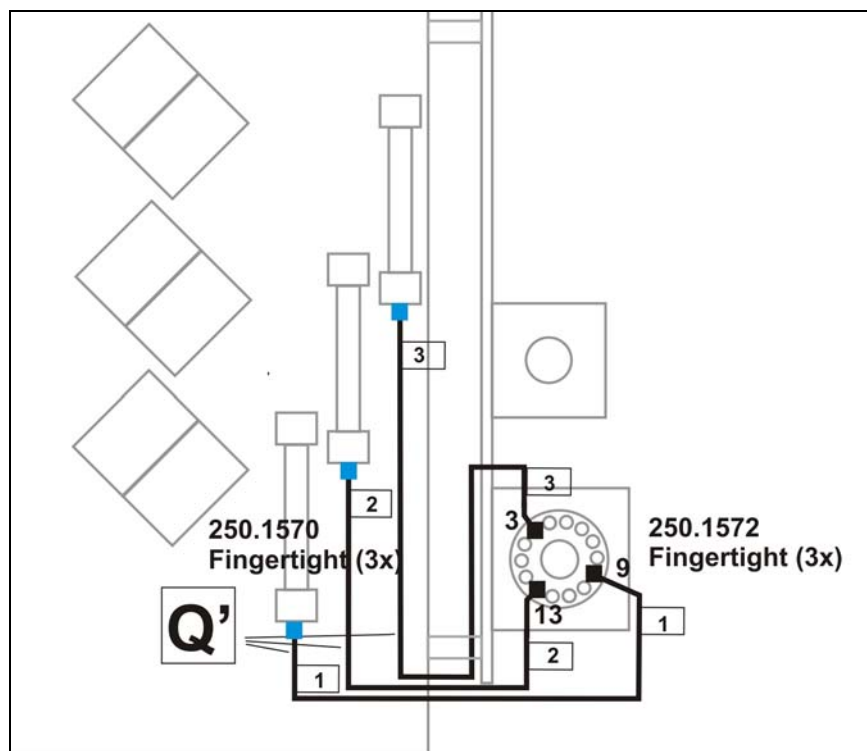

Figure 18. Assembly Q', TCC time resolution configuration.
8. **Assembly Y, DECADE II inlet assembly 2, micro (p/n 180.0233):** Three DECADE II inlet assemblies are provided in the ship kit to connect the columns to the corresponding flow cells. Connect one end of the PEEK tubing to the outlet of the HPLC column using the supplied PEEK finger tight (p/n 250.1570). Connect the other end of the tubing to the inlet of VT-03 flow cell using the KEL-F VT-03 fingertight (p/n 110.1045). Do the same for the second and third column and cell. Installation of assembly Y for the parallel configuration is shown in figure 18.